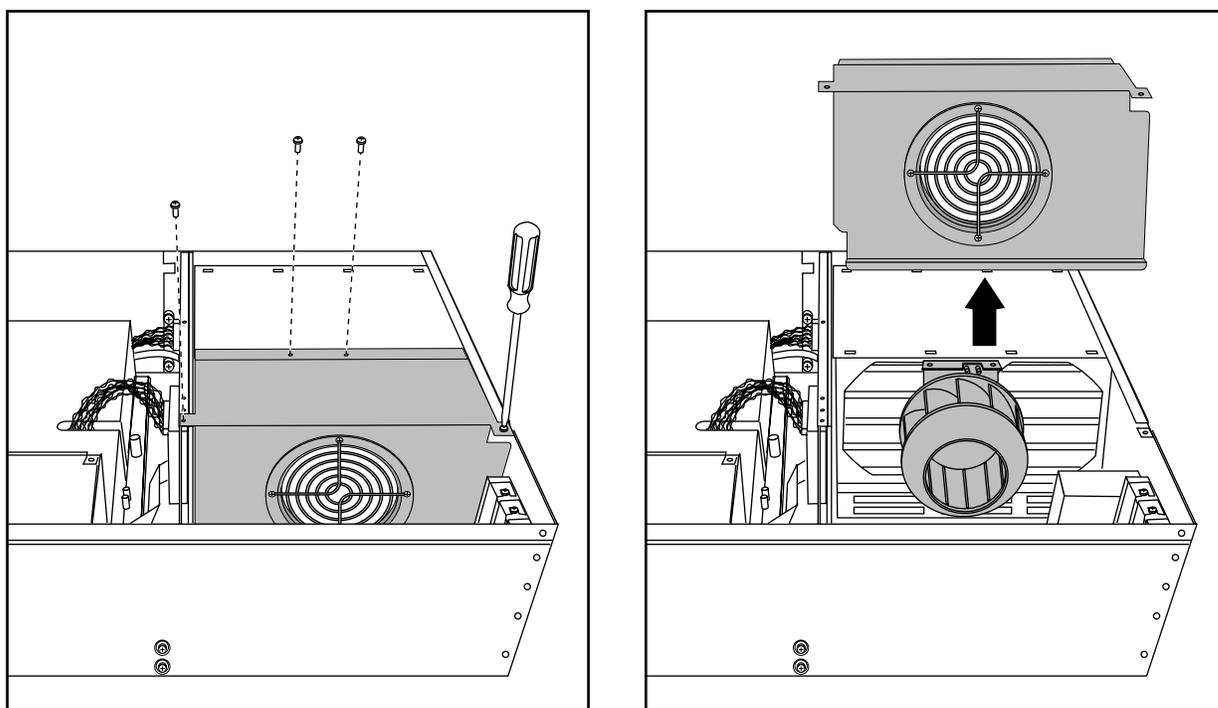

Figure 5-34 Removing the Blower Cover
3. Remove the blower cover, as shown in Figure 5-34.